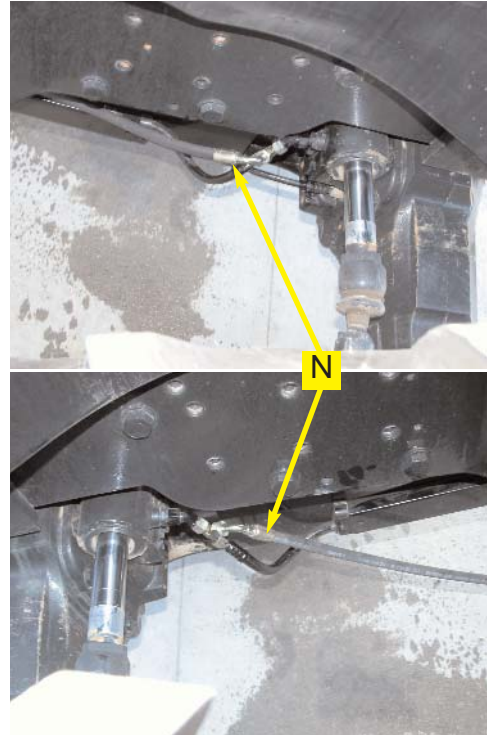

Figure 6a. Installed steering output hoses.
- a. Connect the steering output hoses (**N**) between the **A** and **B** ports of the Automated Steering Block and the branches on the steering run tees (**J**). (Figure 6a and 6b.)